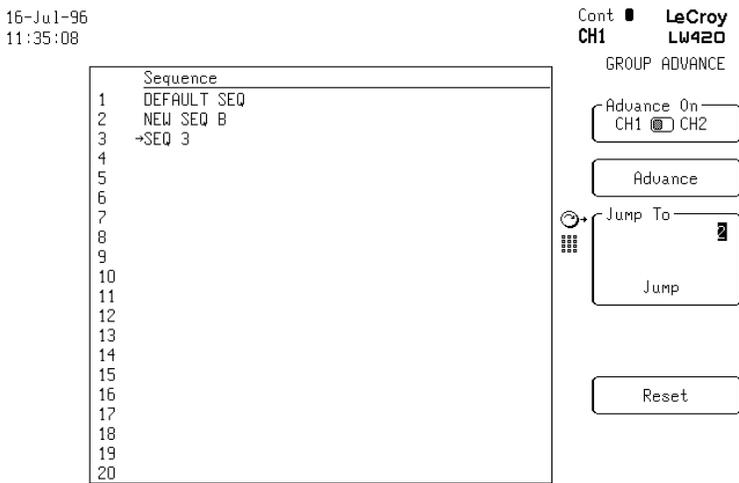

Figure 7.11 Group Advance Operation
7. When complete, press the **compile** menu key to assemble and output the waveform. A message will be displayed when the compile is completed successfully— see figure 7.11.
See the following —figure 7.11—for an example of **ADVANCE**.